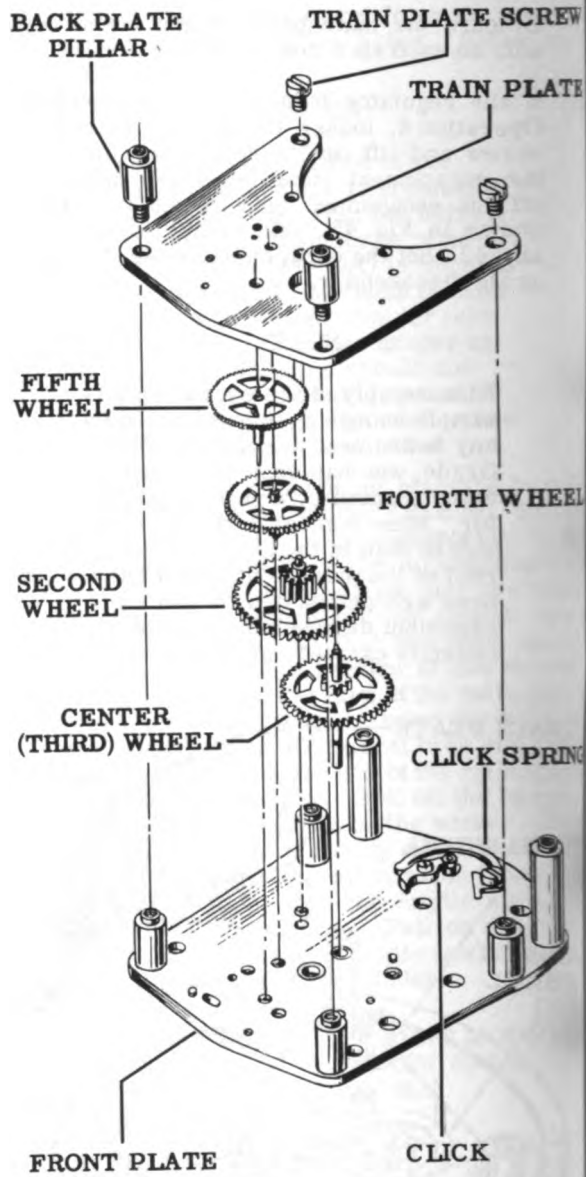

Figure 49—5189 Boat and Deck Clock Movement
- A. In Boat and Deck Clock Movements also take out the center wheel. See Fig. 49.